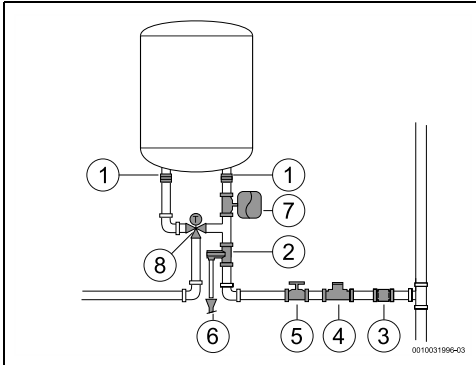

Fig. 11
- ▶ Close the water shut-off valve (→ Fig. 11, [5]).
- to install a pressure reducing valve (Fig. 11, [4]). The pressure relief valve will activate whenever the water pressure in the appliance is above 8 bar (± 1 bar), for which reason it is necessary to plan a way of draining off this water.
- install an expansion vessel (Fig. 11, [7]) to stop the pressure relief valve opening so frequently. The volume of the expansion vessel should be equivalent to 5% of the volume of the appliance.